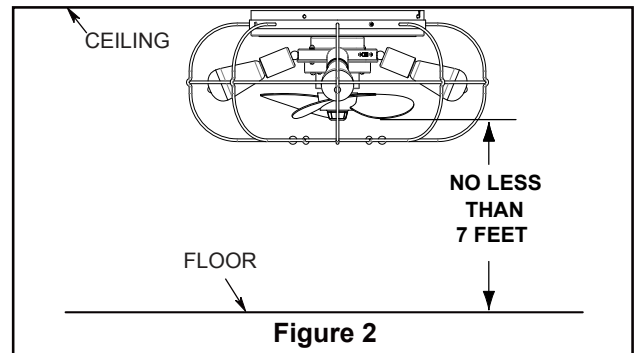

Figure 2
Your new ceiling fan will require a grounded electrical supply line of 120 volts AC, 60 HZ, 15 Amp Circuit. Electrical code requires use of a fan-rated outlet box to support the extra weight and motion associated with a ceiling fan. A fan-rated box will be labeled as such and typically supports up to a 70lbs ceiling fan. Fan-Rated Outlet Boxes vary in ratings and design. Ensure the ratings of your ceiling fan outlet box meet the requirements for the ceiling fan being installed. Figure 1, Figure 2 and Figure 3 depicts different structural configurations that may be used for mounting the outlet box.
Deep-profile use (Figure 2)
The fan must be hung with at least 7' of clearance from floor to blades. (Figure 2)
To avoid possible electrical shock, be sure electricity is turned off at the main fuse box before wiring. (Figure 2)
- ☐ **2.** Restore electrical power to the outlet box by turning the electricity on at the main fuse box. (Figure 2)